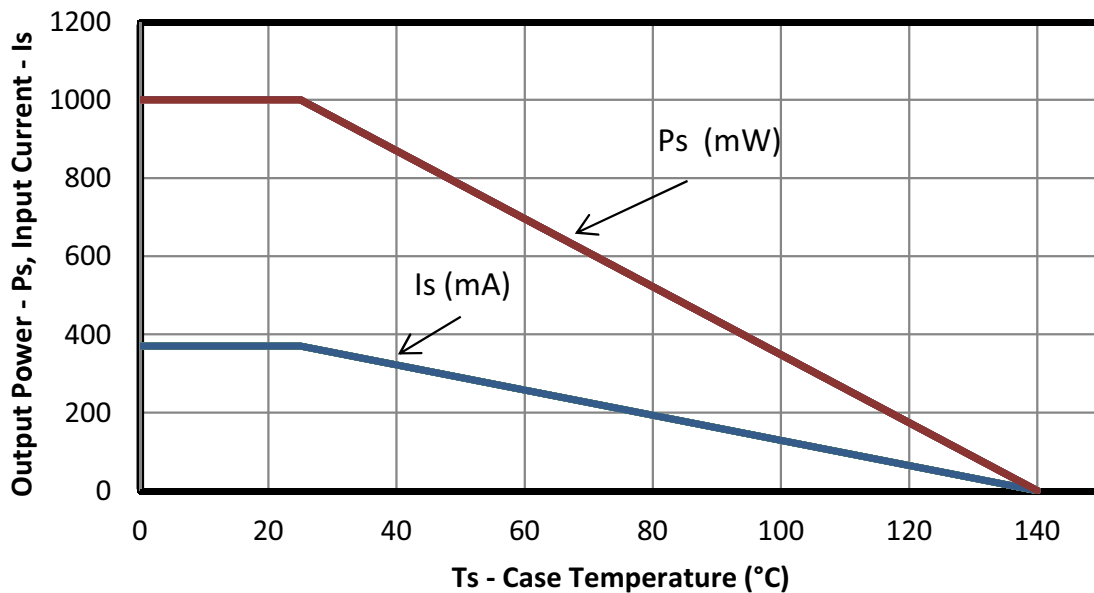

Figure 5. (SOIC-8) Thermal Derating Curve, Dependence of Safety Limiting Values with Case Temperature per DIN EN 60747-5-5 and VDE0884 part 10
***Note:** Maximum value allowed in the event of a failure; also see the thermal derating curve in Figures 5, 6, 7, and 8.